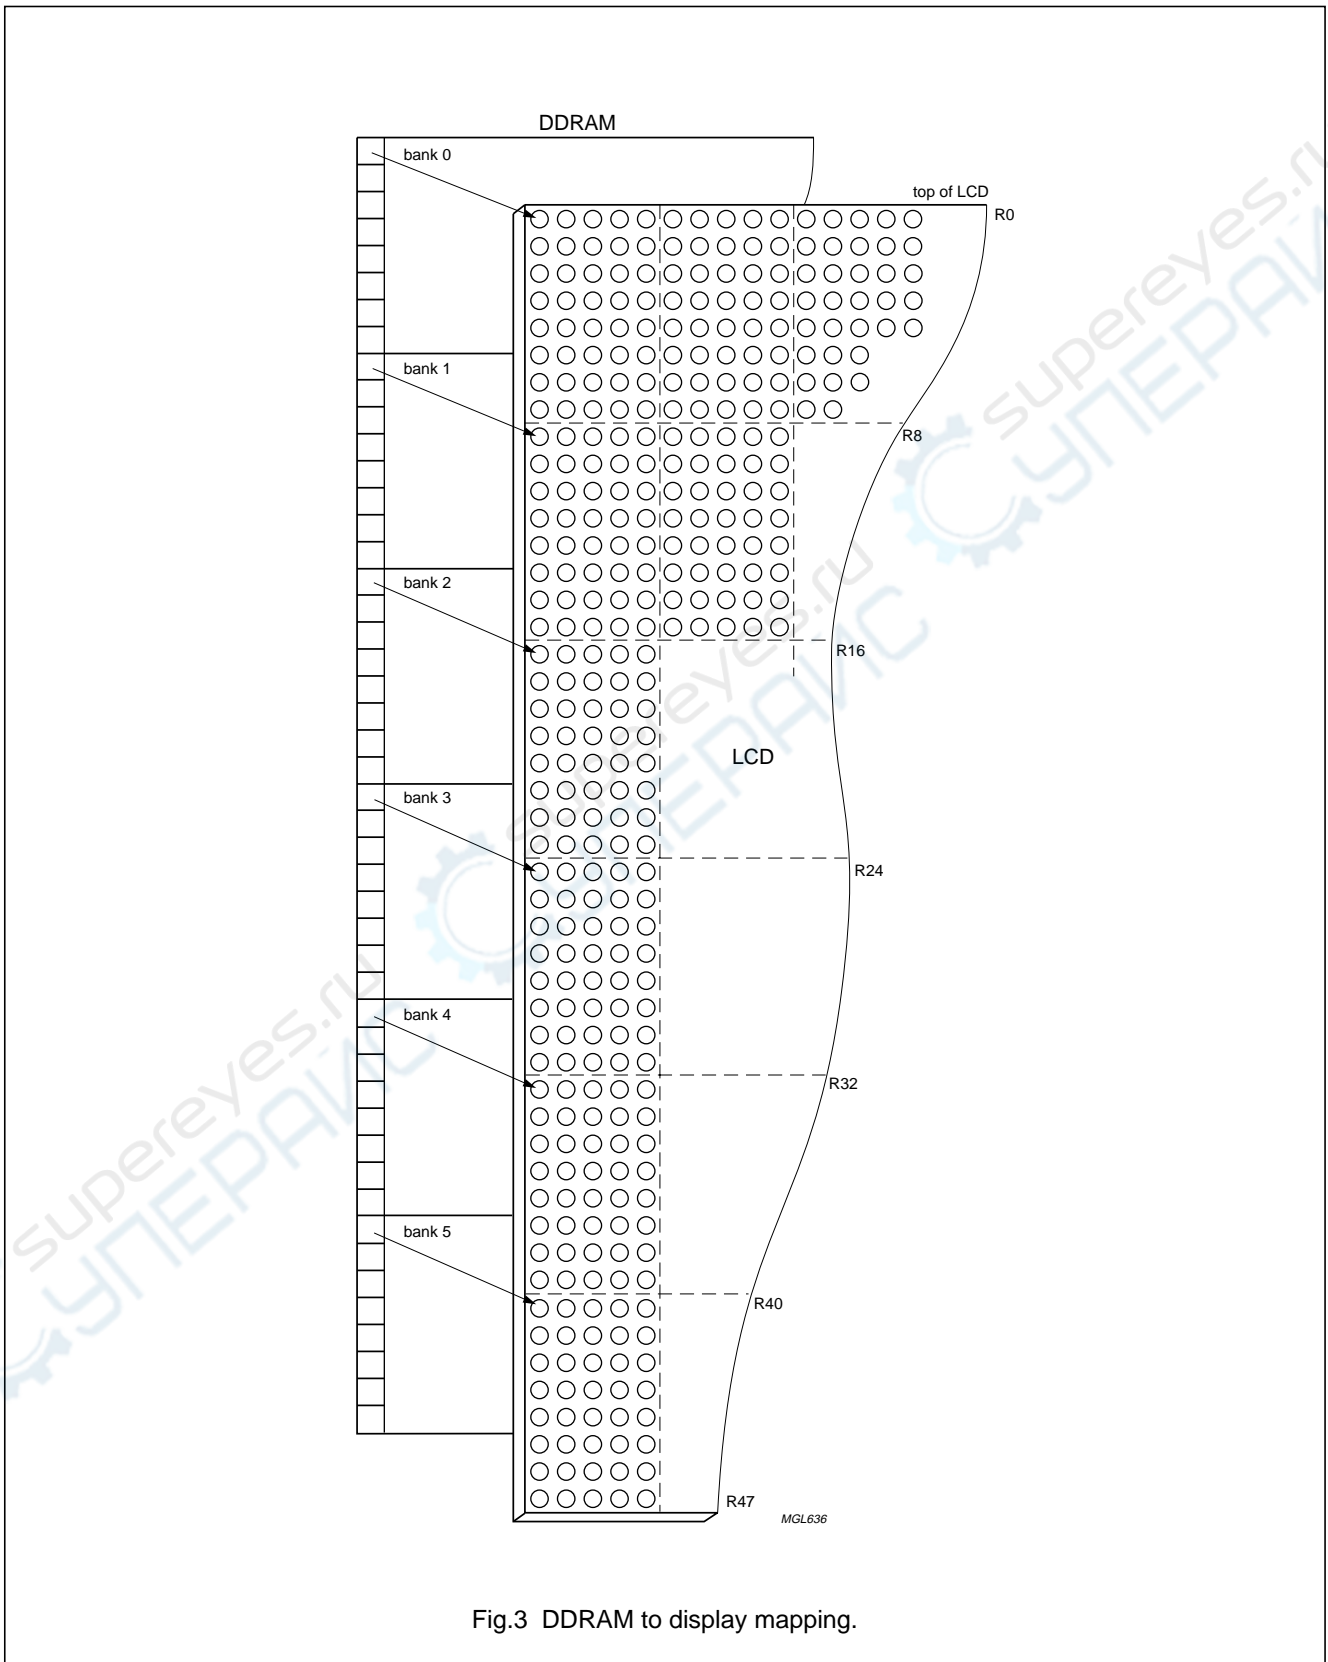

Fig.3 DDRAM to display mapping.
Data is downloaded in bytes into the 48 by 84 bits RAM data display matrix of PCD8544, as indicated in Figs. 3, 4, 5 and 6. The columns are addressed by the address pointer. The address ranges are: X 0 to 83 (1010011), Y 0 to 5 (101). Addresses outside these ranges are not allowed. In the vertical addressing mode ( $V = 1$ ), the Y address increments after each byte (see